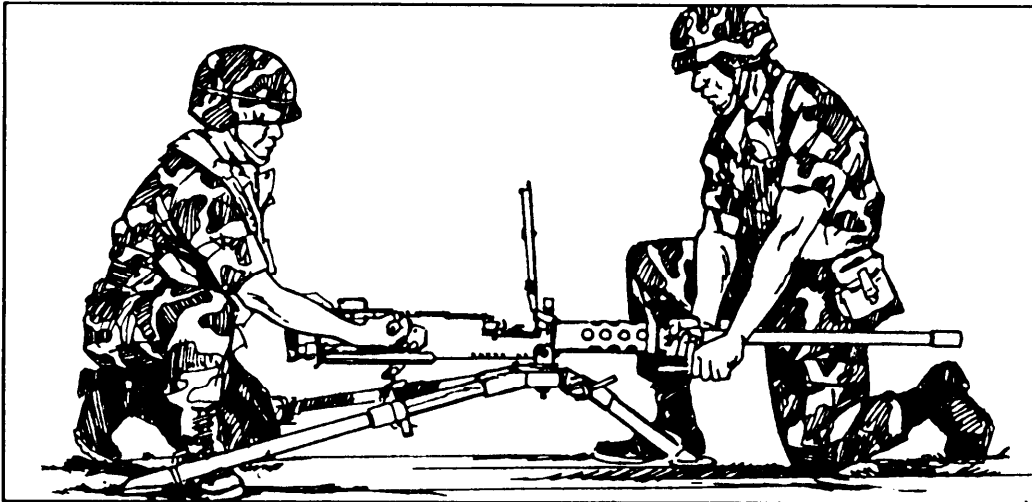

Figure 3-19. Screwing in the barrel.
(2) Hold the bolt in this position and screw the barrel fully into the barrel extension (Figure 3-19).